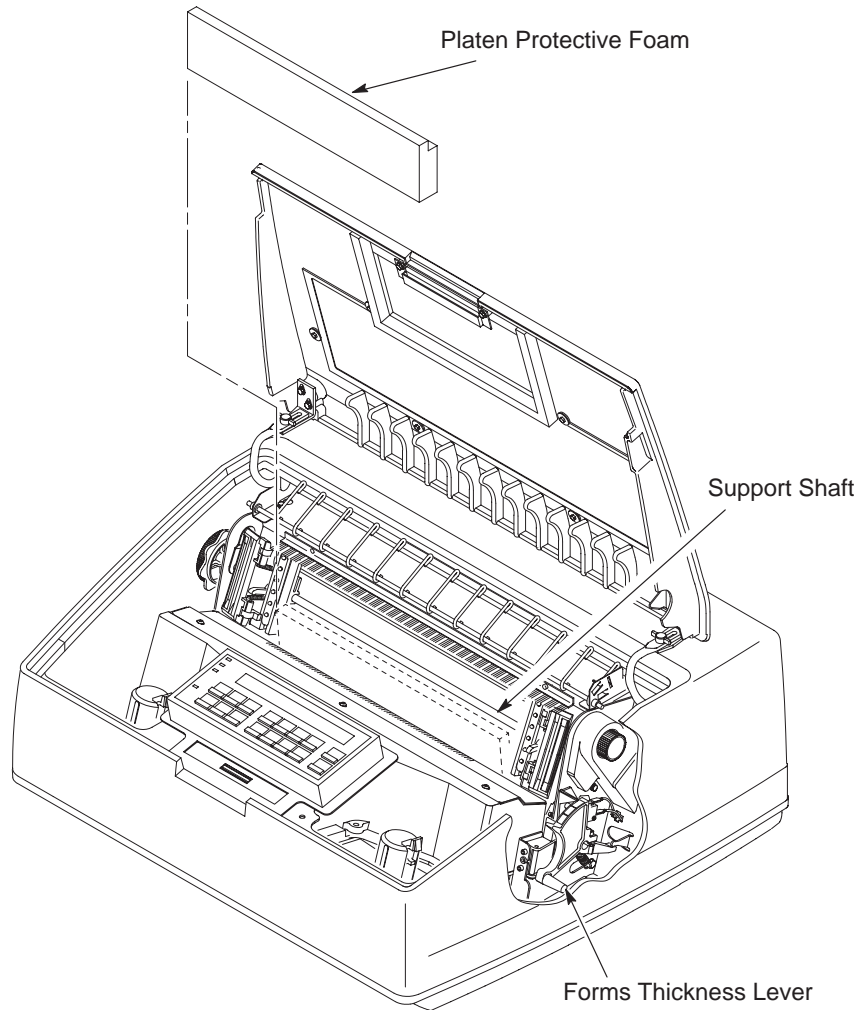

Figure 2–13. Removing the Platen Protective Foam
1. Rotate the forms thickness lever downward (to position “A”). See Figure 2–13.